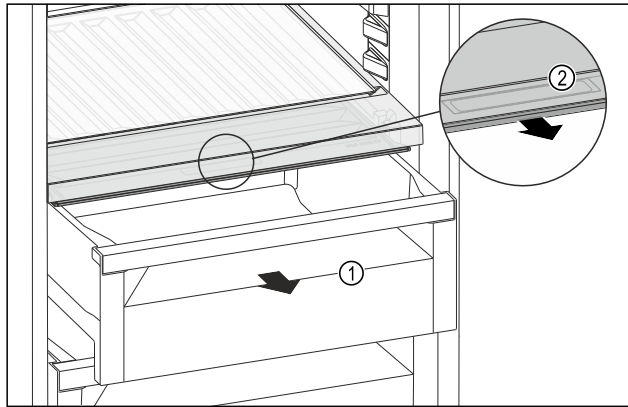

Fig. 92
- Pull out the drawer Fig. 92 (1).
- Grip the handle recess Fig. 92 (2) on the lid while pulling the lid forward at the same time.